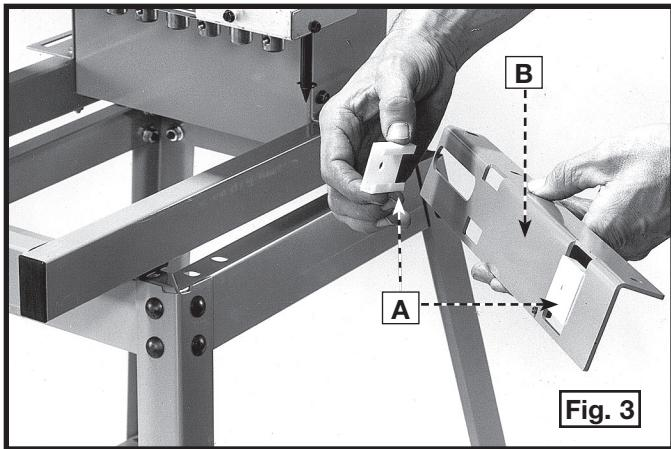

Fig. 3
1. Clip the two table slides (A) Fig. 3 in the table bracket (B).